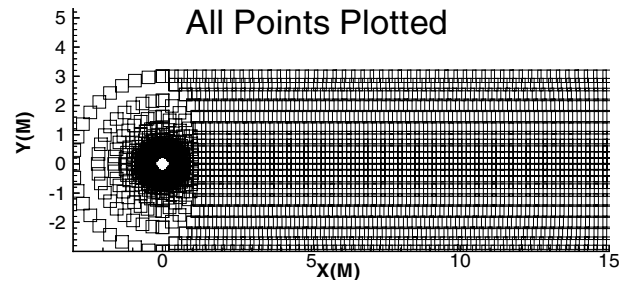
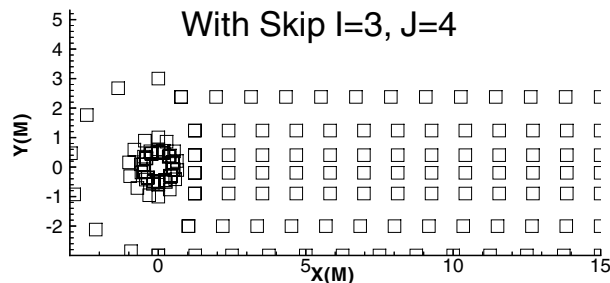

Figure 13-9. A crowded scatter plot, using the cylinder data.
Figure 13-10. A scatter plot with Index Skip specified.
For example, a typical scatter plot from a full-size mesh has so many points it is difficult to see individual symbols (shown in Figure 13-9). Figure 13-10, on the other hand, shows a “thinned” scatter plot of the same data with Index Skip specified, showing every third point in the I-direction and every fourth point in the J-direction.
6. (Enter Skip only) Enter the desired values of I-Skip, J-Skip, and K-Skip. Figure 13-10 was created with the following settings: *I-Skip=3, J-Skip=4, K-Skip=1*.